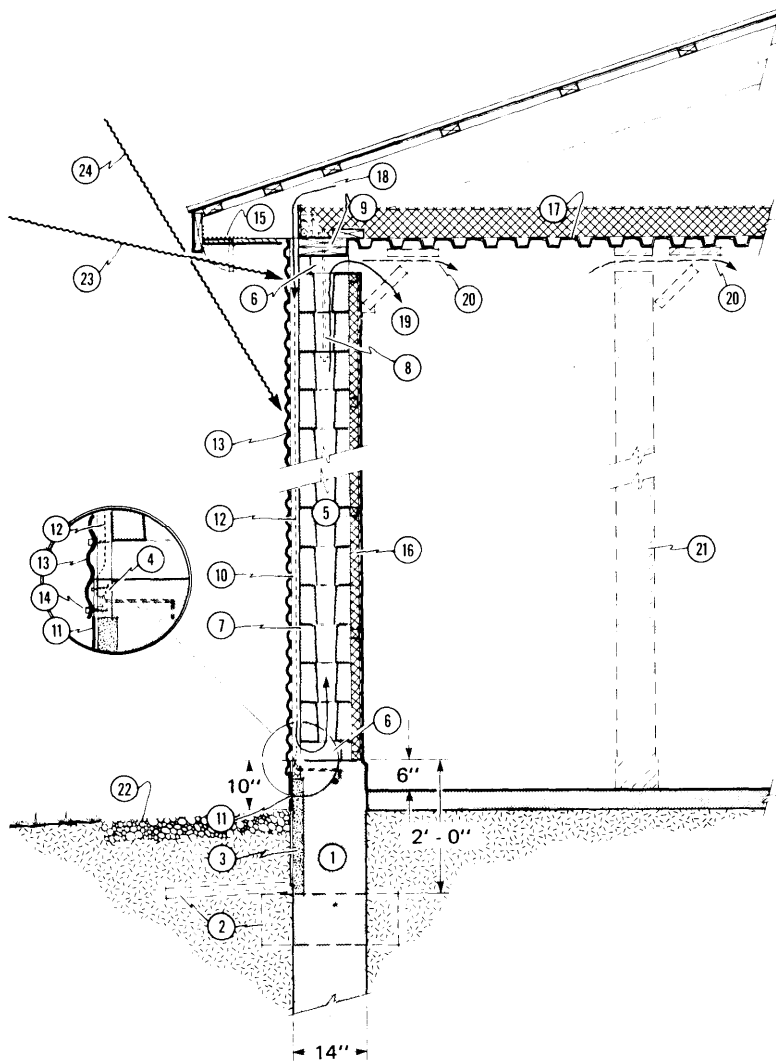

Figure 2. Details of construction
**CONSTRUCTION DETAILS** Figure 2 shows details of construction and method of operation. The solar wall may be built as the south wall of a new barn, or it may be added to an existing barn. Of course, the extra cost of the solar feature is much greater for an add-on wall than for a solar wall built as an essential part of a new building.
The preferred order of construction is outlined by the sequence of the numbered notes in Figure 2. After laying up the concrete block storage wall, it should be washed with 10% muriatic acid solution and then rinsed thoroughly with clean water, to ensure paint adhesion. Paint with two coats of flat black exterior latex, using roller or spray. Paint the cedar strapping 10 as well, after fastening it with ramsets or lead anchors to the painted block wall.
With the preheat hallway the function of the collector and storage is the same as with direct ventilation, but the solar-heated air can be dumped directly into the hallway, without the slot baffle. Whenever solar heating is not enough, more heat is added in the hallway (such as with electric fan-forced heaters), then the warmed air is passed through adjustable inlets into the animal room(s). The arrangement of these adjustable inlets may or may not be as shown in Figure 2. If, for example, the shorter wall of the animal room is adjacent to the preheat hallway, it is often better to run a ceiling duct from the hallway into the room and to spread the air from both sides of the duct.